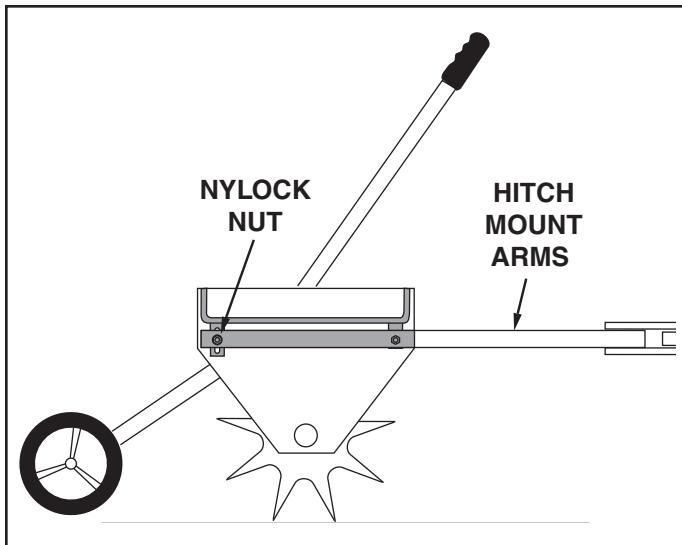

FIGURE 8
- To level the spike tray after the aerator is attached to the tractor hitch, loosen the nylock nuts holding the hitch mount arms to the brackets at the rear of the tray. Make the tray as level as possible and then retighten the nuts. See figure 8.